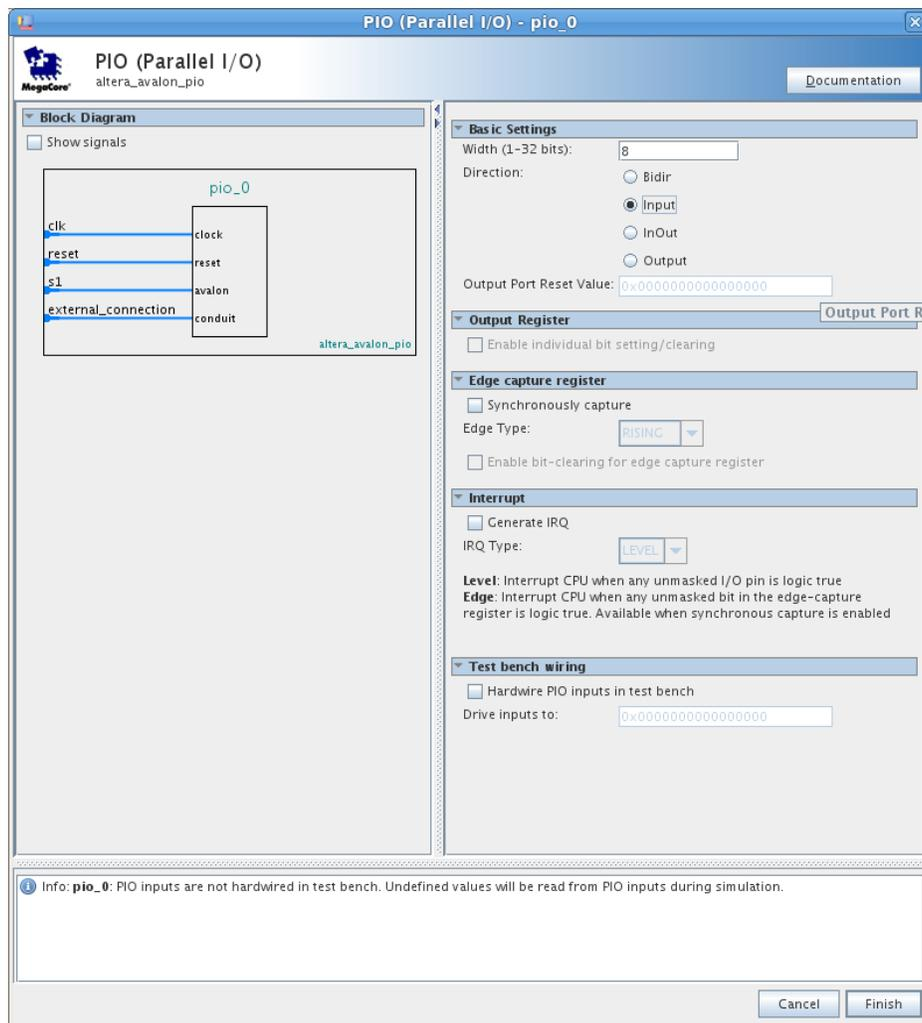

Figure 11. Defining a parallel input interface.
- Select in the Library, Peripherals > Microcontroller Peripherals > PIO (Parallel I/O) and click Add to reach the PIO Configuration Wizard in Figure 11